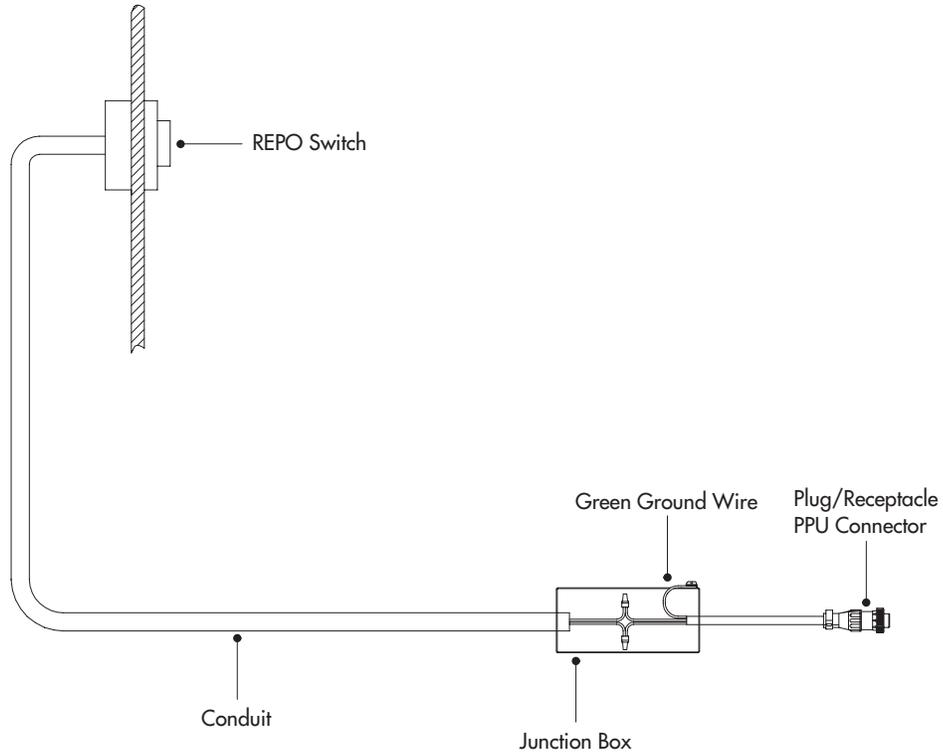

Figure 9. Standard REPO Cord
The optional three-wire REPO cord (see Figure 9) can be ordered from the manufacturer. The green wire is a safety ground for the REPO conduit. The REPO function activates when the black and white wires of the optional EPO cord are shorted together.
- 2** Connect the REPO cord to the conduit inside a junction box by twisting the ends of exposed wire together with the wire nuts (see Figure 9). Twist the wires until tight.